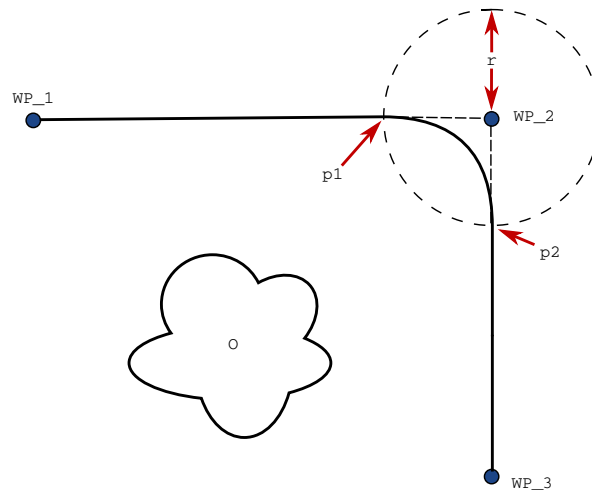

Figure 14.3: Blend over  $WP_2$  with radius  $r$ , initial blend position at  $p1$  and final blend position at  $p2$ .  $O$  is an obstacle.
**Blend parameters** Apart from the waypoints, multiple parameters will influence the blend trajectory (see figure 14.3):